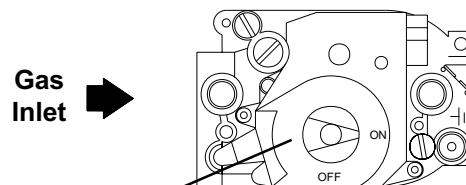

Figure 1. ← Gas control knob shown in "ON" position.
7. Wait five (5) minutes to clear out any gas. If you then smell gas, **STOP!** Follow "B" in the safety information above. If you don't smell gas, go to the next step.
8. Turn gas control knob counterclockwise  to "ON". See Figure 1.